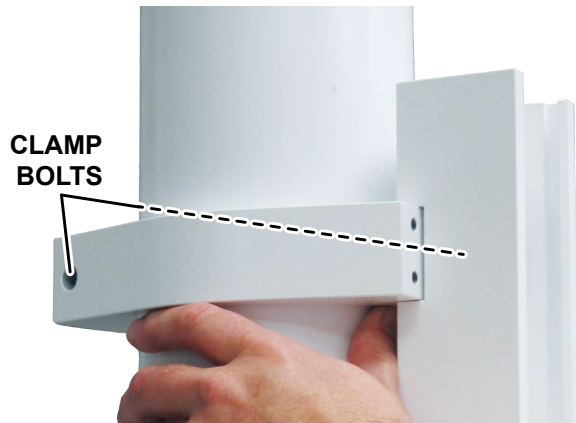

Figure 4. Secure the VST Clamp
5. Alternately tighten both of the clamp's Allen head bolts to ensure the clamp is attached evenly (Figure 4).